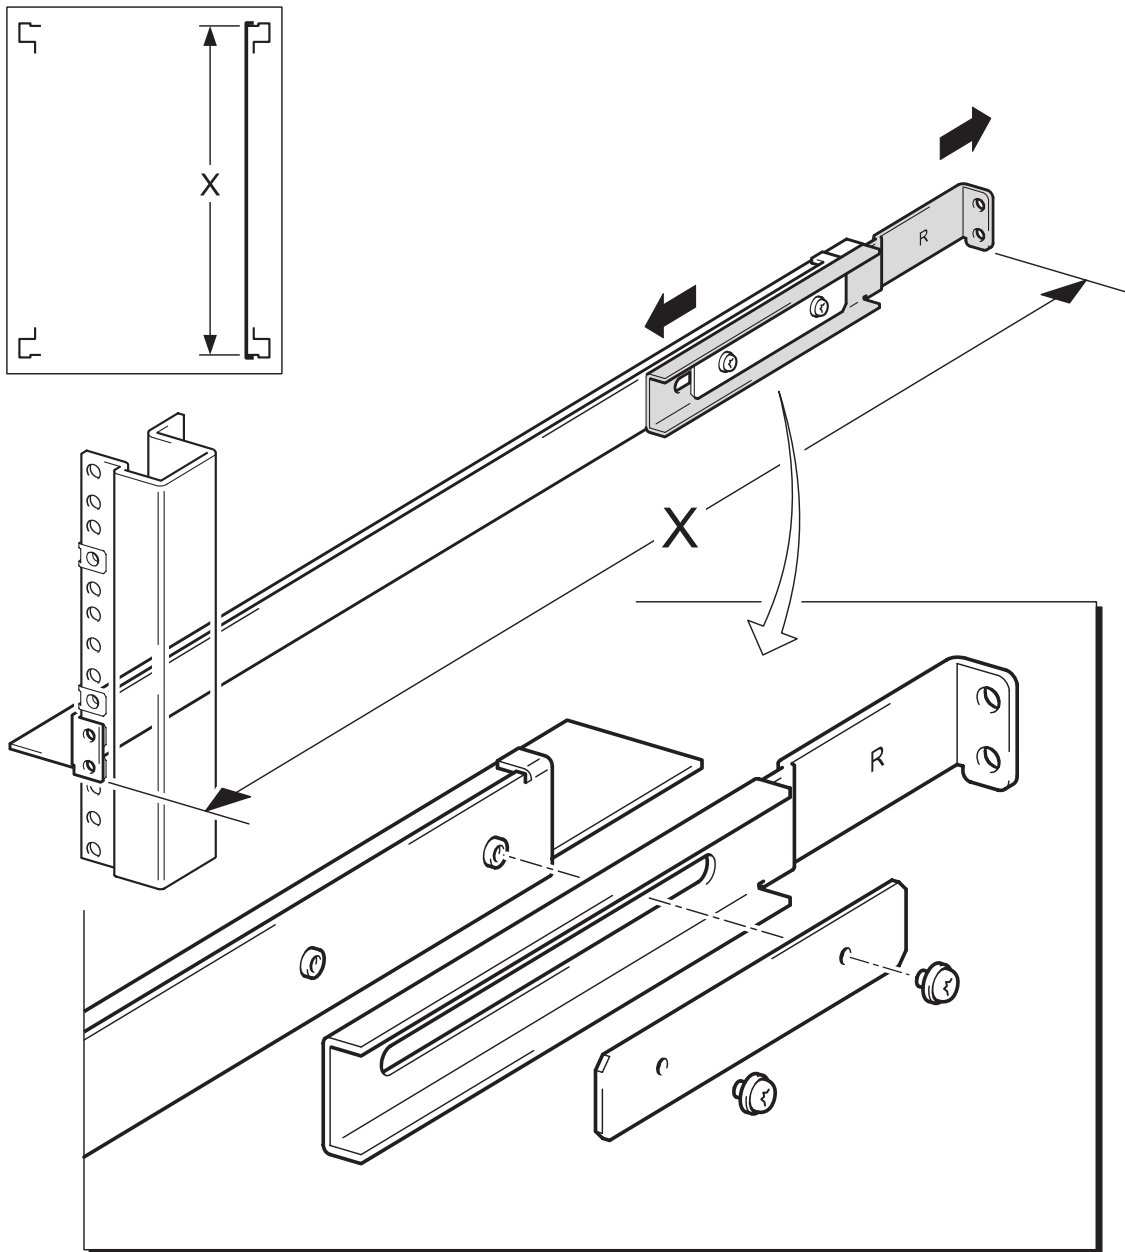

Figure 1: Adjust the length of the support rails
- 2 Assemble the side support rails as shown on Figure 1. Align the length to scribe line A or scribe line B, as shown in the table above. Finger tighten the two securing screws.
- 5 Check that the length is correct to allow the flange on the front of the rail to fit over the front rack column and the flange at the rear of the rail to fit over the rear rack columns, see Figure 1.